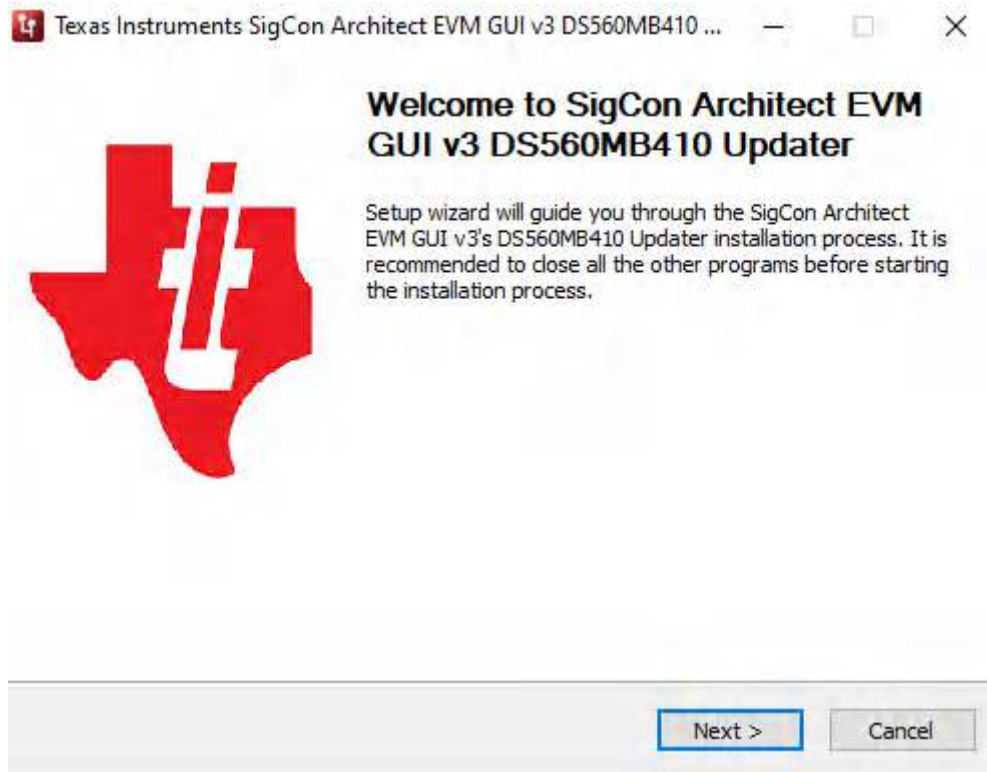

Figure 5-1. DS560MB410 Profile Installer
| Figure 5-1. DS560MB410 Profile Installer..... | 5 |
3. When the executable runs, a setup wizard will appear as shown in Figure 5-1. It is recommended to close any running programs prior to proceeding.